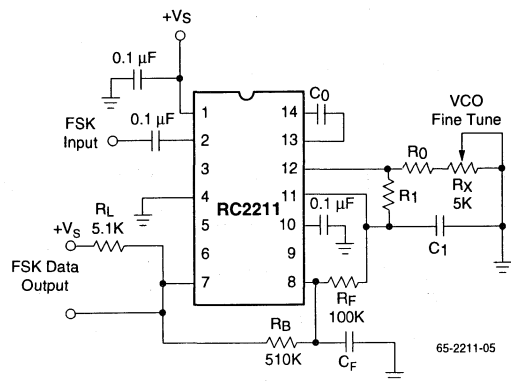

Figure 2. Circuit Connectbn for FSK Decoding
Figure 2 shows the basic circuit connection for FSK decoding. With reference to Figures 1 and 2, the functions of external components are defined as follows: R0 and C0 set the PLL center frequency, R1 sets the system bandwidth, and C1 sets the loop filter time constant and the loop damping factor. CF and RF form a one pole post-detection filter for the FSK data output. The resistor RB (510 kΩ) from pin 7 to pin 8 introduces positive feedback across FSK comparator to facilitate rapid transition between output logic states.
Table 1. Recommended Component Values for Commonly Used FSK Bands (see Circuit of Figure 2)
The circuit of Figure 2 can be tailored for any FSK decoding application by the choice of five key circuit components: R0, R1, C0, C1 and CF. For a given set of FSK mark and space frequencies, F1 and F2, these parameters can be calculated as follows:
**Note:** All calculated component values except R0 can be rounded off to the nearest standard value, and R0 can be varied to fine-tune center frequency through a series potentiometer, RX (see Figure 2).